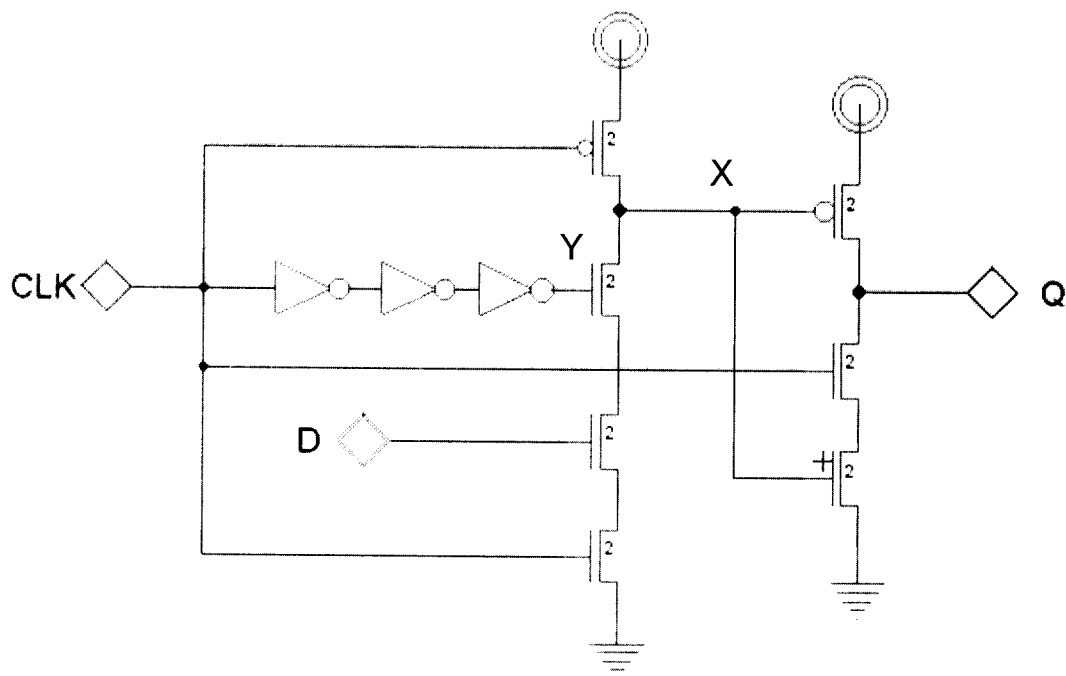
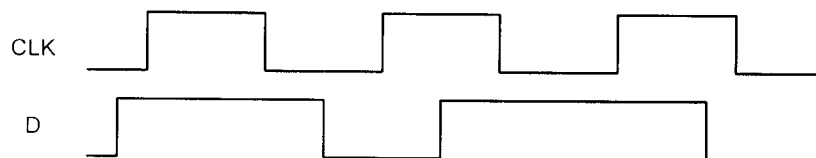

Figure 3.1
Figure 3.2
3. a) *Figure 3.1* shows the circuit diagram of a flip-flop. Assuming that the signals CLK and D are as shown in *Figure 3.2*, draw a timing diagram showing the waveforms for CLK, D, X, Y and Q. Hence or otherwise, explain how this circuit works.
- c) Modify the flip-flop circuit shown in *Figure 3.1* so that the Q output also implements embedded logic described by the following Boolean equation: